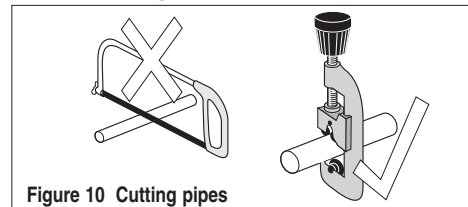

Figure 10 Cutting pipes
6.12 Cut all necessary pipework to length with a pipecutter and not a hacksaw, to minimise swarf - see Fig. 10.